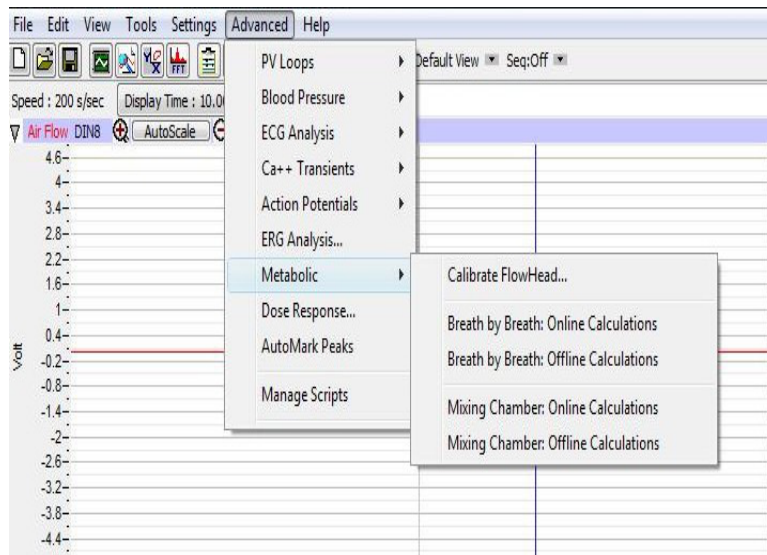

Figure HE-4-S20: Calibrate FlowHead dialog window.
24. In the new window that opens (Figure HE-4-S22), enter these values: